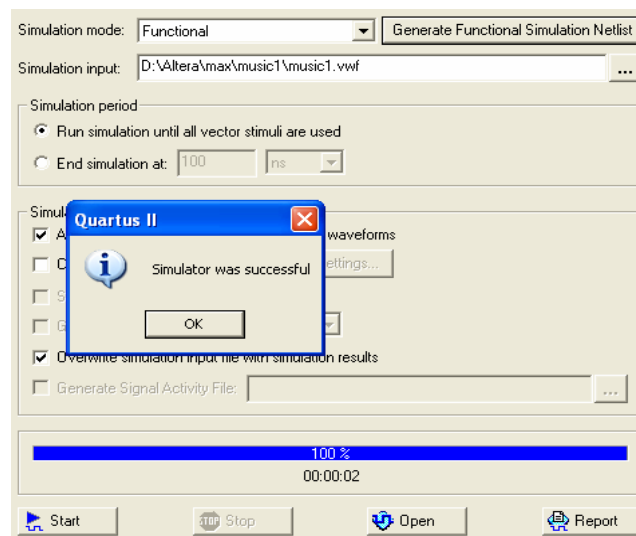

Figure 3.9: Simulator Tool window.
- Return to the Simulator Tool window and assign the correct *.vwf to the Simulation Input in the Simulator Tool window (Refer Figure 3.9).